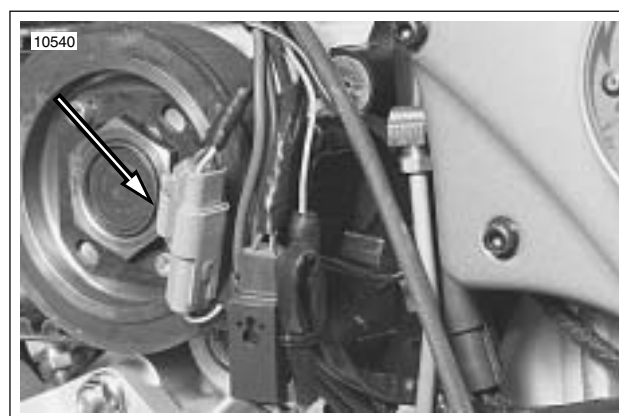

Figure 7-72. Vehicle Speed Sensor Connector [65]
1. See Figure 7-72. Locate the 3-place vehicle speed sensor connector [65] under the sprocket cover. See 2.33 SPROCKET COVER.
1. See Figure 7-72. Disconnect vehicle speed sensor connector [65]. Attach speedometer tester connector to vehicle speed sensor connector.